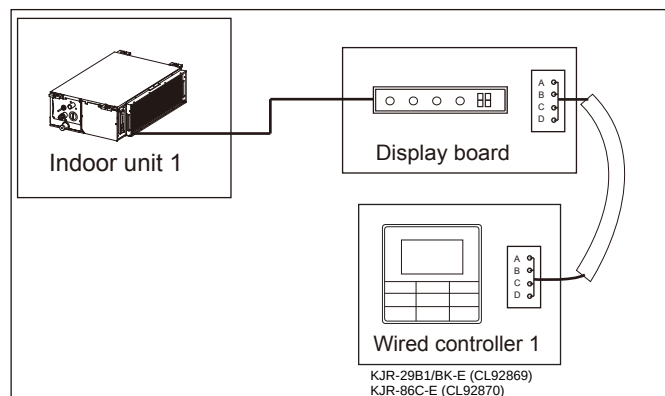

Figure 7.9
- ◆ Use 1 wired controller to control 1 indoor unit (see Figure 7.9).